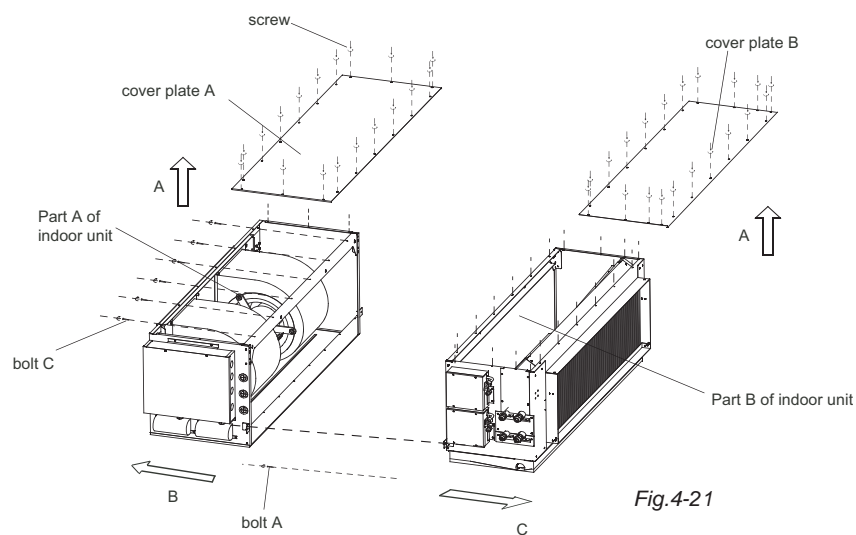

Fig.4-21
- 2 Following Fig.4-21 twist-off the screws, along the direction of A get off the cover plate A and cover plate B.